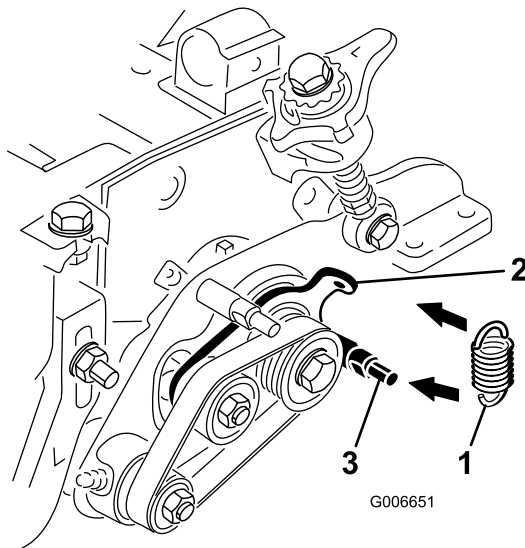

Figure 26
29. Hook the idler spring in the hole in the idler plate tab and around the groove on the groomer plate lower stud (Figure 26). The open end of the spring hook is to be positioned toward the drive pulley.